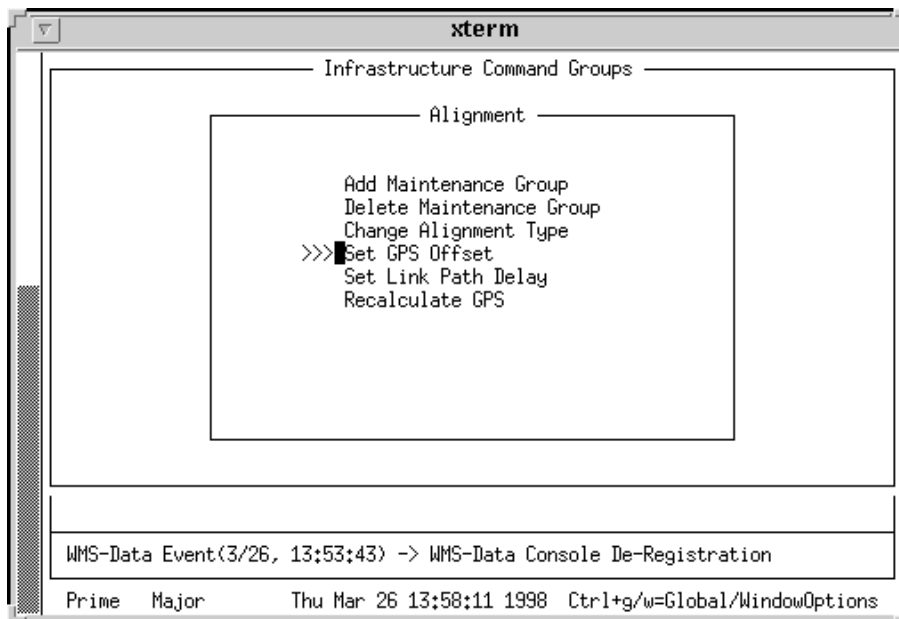

Figure 3-8: Alignment Menu—Set GPS Offset
1. From the Alignment menu, use the <tab> to position the cursor to the left of the listing Set GPS Offset and press: <Return> (see Figure 3-8).